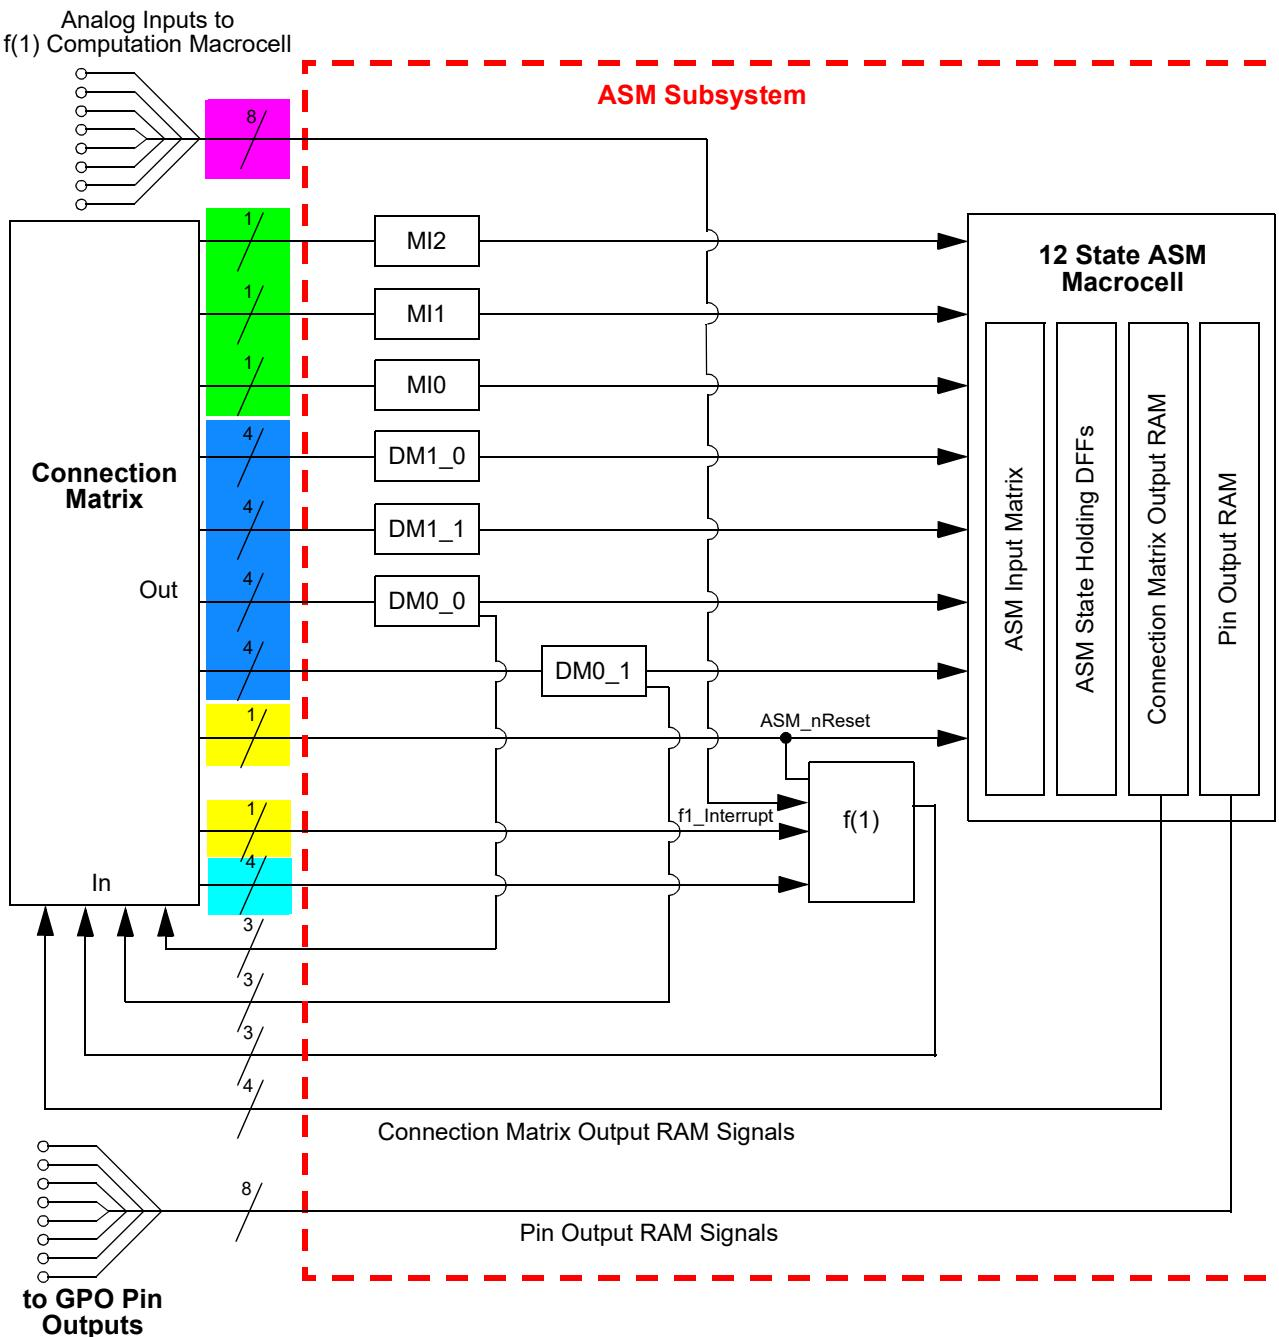
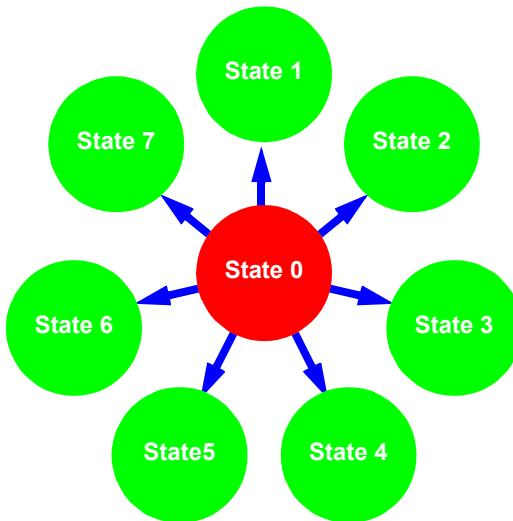
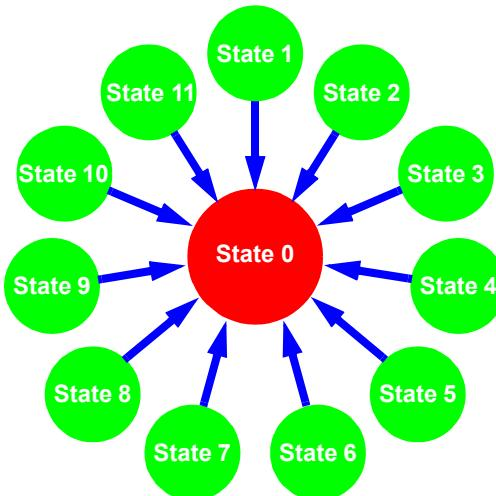

Figure 78: ASM Subsystem Input Signals
Figure 79: Maximum 7 State Transitions out of a Given State
Figure 80: Maximum 11 State Transitions into Given State
The ASM Subsystem has a total of 25 digital input signal lines, as shown in Figure 78, which all come from the Connection Matrix outputs. Of these 25 input signals, 3 are user selectable inputs going directly from the Connection Matrix to the three Matrix Interface (MI) macrocells. There are a total of 16 input signals that go to the DMx_x macrocell, four per macrocell. There is 1 ASM_nReset input that is for driving a state transition in both the ASM macrocell and the f(1) Computation Macrocell to an Initial/Reset state. There are 4 digital input signals coming from the Connection Matrix to the f(1) Computation Macrocell. There is also 1 dedicated Interrupt input to the f(1) Computation Macrocell that will halt any active operations and transfer control back to the ASM macrocell. Each of the 25 input signals are level sensitive.
There are a total of 16 digital input signals to the ASM Subsystem which are inputs directly to the DM macrocells. These 16 signals are shown in Figure 78, highlighted in blue. While there are 4 input signals coming from the Connection Matrix and going to each DM_x_x macrocell, there is only 1 output signal from each of these macrocells, which goes directly to the ASM macrocell. There are also 3 signal lines that come directly from the Connection Matrix and go to the three Matrix Interface (MI) macrocells which can drive state transitions. These signals are shown in Figure 78, highlighted in green. This sets an upper bound on the number of transitions that the user can select going **out of** a particular state to be 7, shown in Figure 79. There is no limitation on the number of unique transitions that can be supported going into a particular state, the user can select to have transitions going from a state to all other states, shown in Figure 80. Each of these input signals to the ASM macrocell is level sensitive, and active high. A high level input will trigger a state transition.
There are a total of 8 analog inputs coming from various pins which can be muxed into the positive input for the f(1) Analog Comparator inside the f(1) Computation Macrocell. These 8 signals are shown in Figure 78, highlighted in pink. The f(1) Analog Comparator can be re-programmed for analog input source and negative input reference settings. The user selections for both positive input signal and negative reference are included as part of the information stored in the f(1) Command Register Table. This allows the user to make different analog measurements that are state dependent in their analog sources and reference settings.
The ASM macrocell also has a ASM_nReset input. This input to the ASM macrocell is level sensitive and active low. This signal is shown in Figure 78, highlighted in yellow. An active signal on this input will drive an immediate state transition to the user-defined Initial/Reset state. The user can choose which state within the ASM Editor inside GPAK Designer will be the reset state.
There is also 1 dedicated f1_Interrupt input to the f(1) Computation Macrocell that will halt any active operations and transfer control back to the ASM macrocell. This signal is shown in Figure 78 also highlighted in yellow.